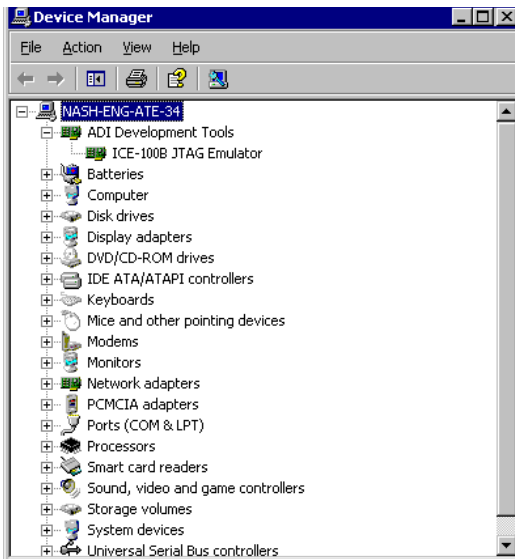

Figure 1-2. Verifying Driver Installation
1. Select the operating voltage of the target processor's JTAG interface. The ICE-100B emulator ships with a jumper (JP1) on positions 1 and 3, and 2 and 4 (default). Refer to Table 1-1 and Figure 1-2.
1. Open the Windows **Device Manager** and verify that the ICE-100B emulator appears under **ADI Development Tools**, as shown in Figure 1-2.